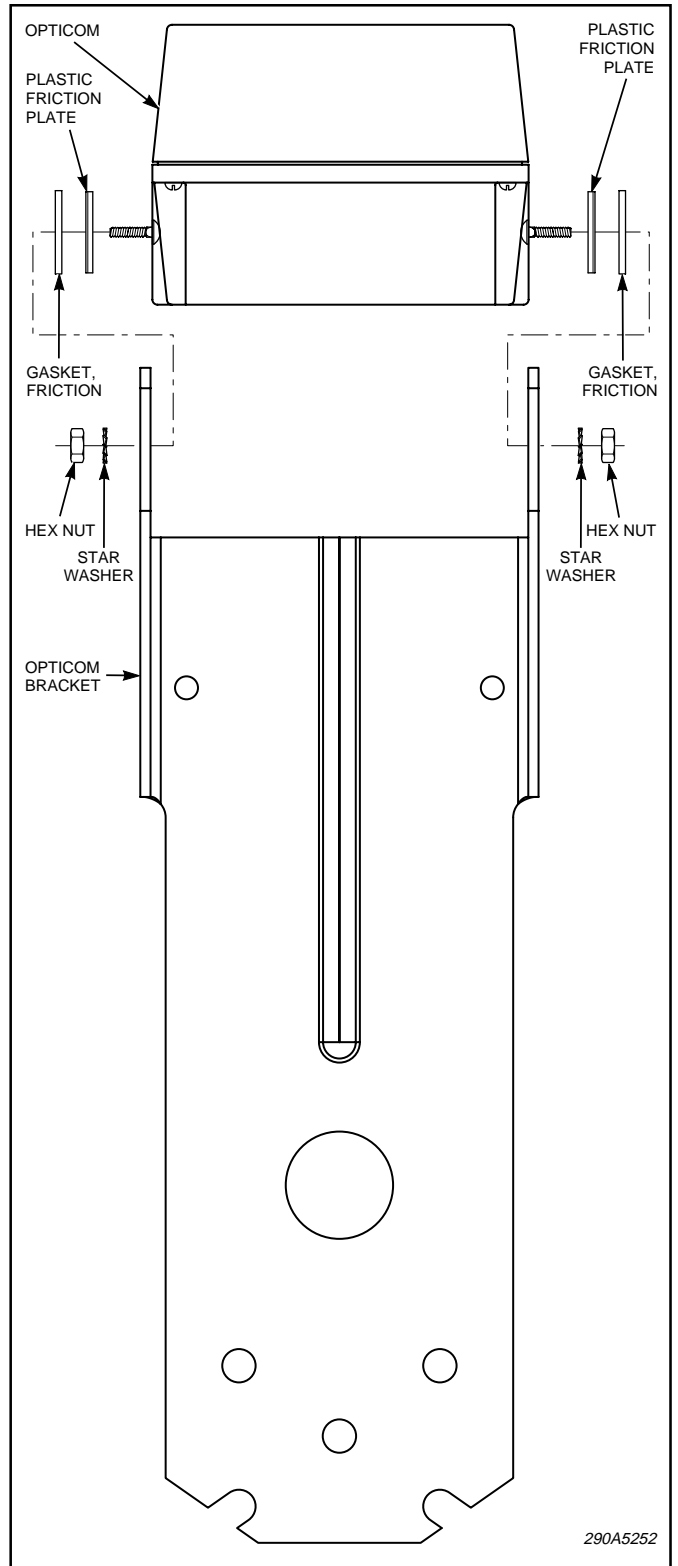

Figure 2.
C. See figure 2. Attach the friction gasket to the friction plate, then attach the emitter with the carriage head bolts and hardware supplied with the emitter. Complete the electrical connections as described in the instructions provided with the emitter.